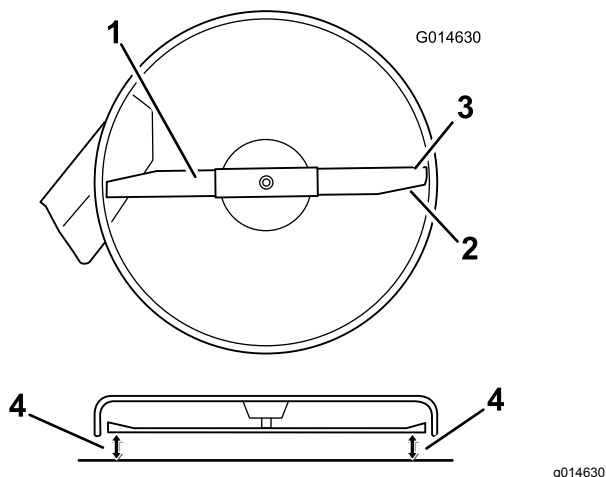
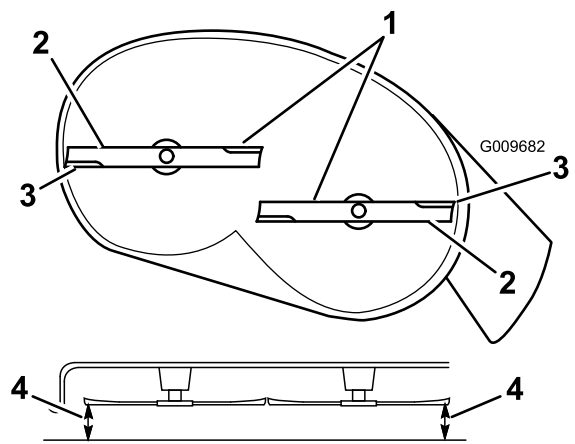

Figure 64
Figure 65
4. Carefully rotate the blade(s) so that they are all side to side (Figure 64 and Figure 65).
5. Measure between the outside cutting edges and the flat surface (Figure 64 and Figure 65).